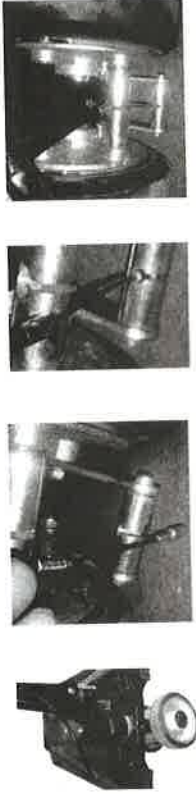

Fig.12. Progressive drive and parking brake
- a) Turn the pump 90 degree to right side, then pass through the brake cable behind the thrust plate.(Fig.12)